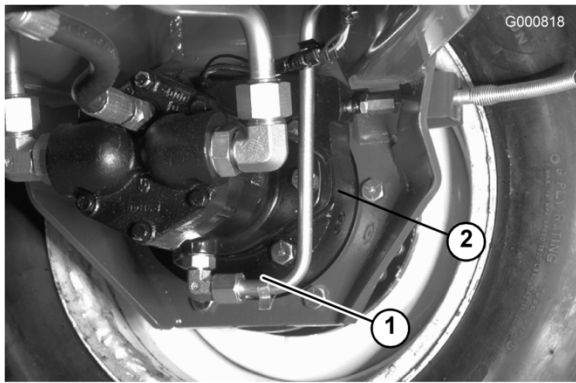

Figure 53
- Remove the plug on the planetary (Figure 52) and the check plug on the back side of the brake (Figure 53).